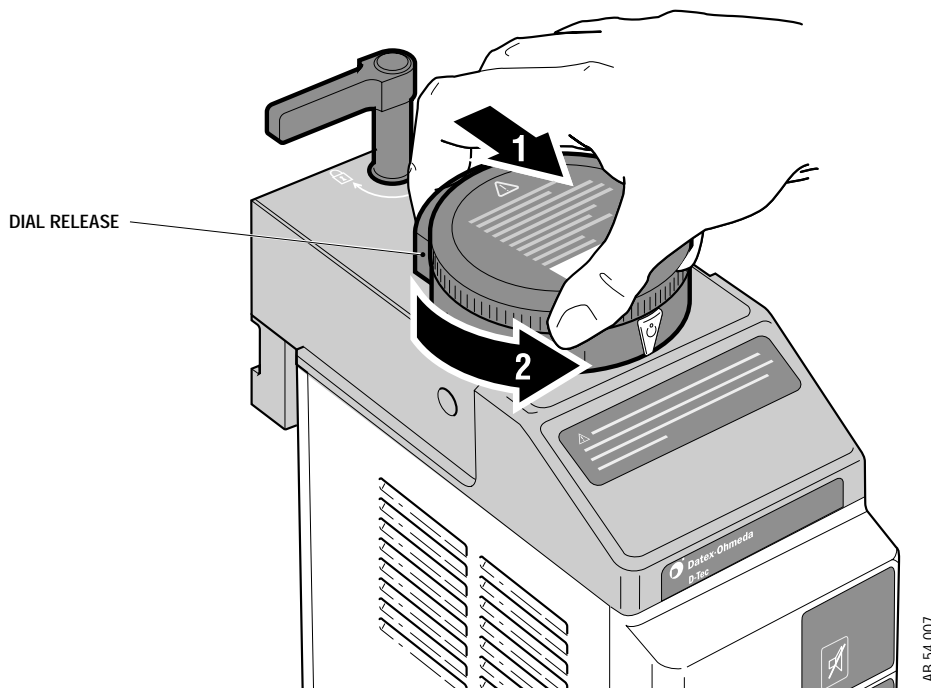

Fig. 15 Turning The Vaporizer Dial
1. Operate the dial release and turn the dial in a counter-clockwise direction from the 0 setting, as illustrated in Fig. 15.